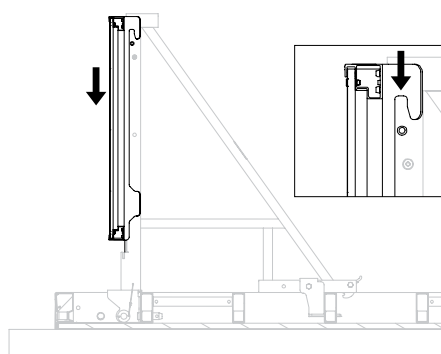

Fig. A4.07
5. Abaisser le platelage MXK. (Fig. A4.07)